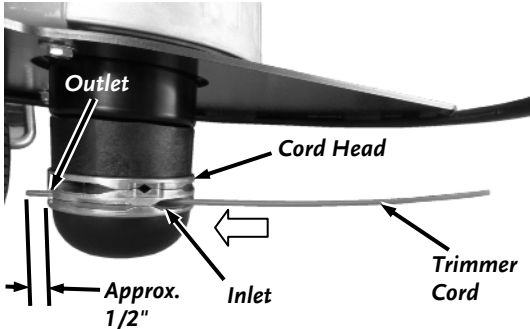

Figure 9
1. Insert the end of a Trimmer Cord into the inlet hole (larger slotted cutout) push it in until the end protrudes out the other side approximately 1/2" (**Figure 9**).